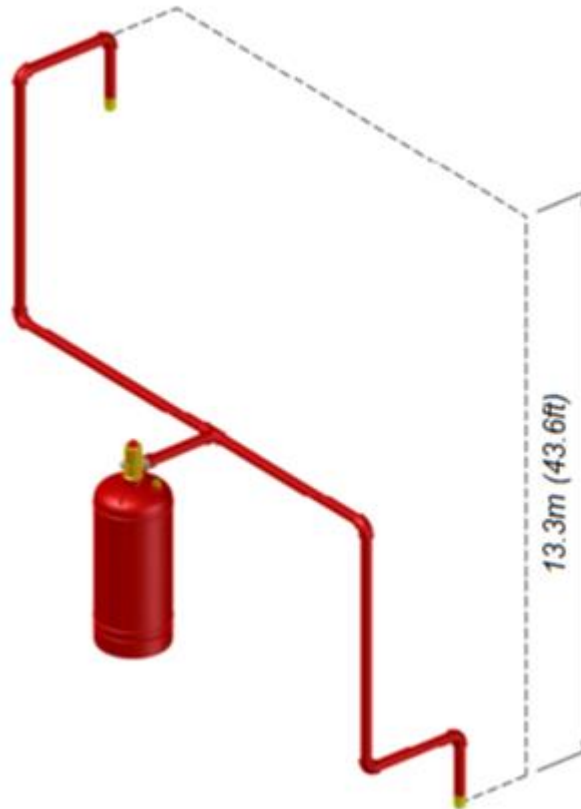

Figure 36 Nozzles Located Above and Below the Cylinder Outlet
- In the event that discharge nozzles located above and below the cylinder outlet, the maximum elevation difference between the farthest horizontal pipe runs or nozzles (whichever is furthest) shall not exceed 13.3 m (43.65 ft). Refer to Figure 36.